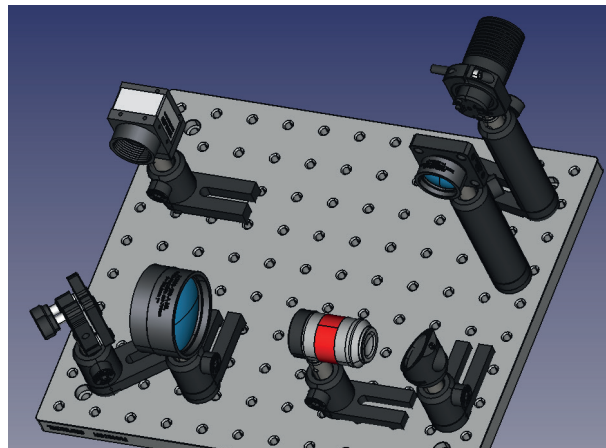

FIGURE 3 – Setting up the illumination, part 1.
Step 3 : Install the red LED with the LED mount and an optical post on a tall post holder. Place it in the opposite corner of the kinematic mirror mount (top right on figure 3). Install a small focal length lens on a lens mount compatible with cage systems. Place it also on an optical post and a tall post holder. Adjust the distance between the lens and the LED in order to have a collimated beam after the lens. This will provide the widefield illumination.